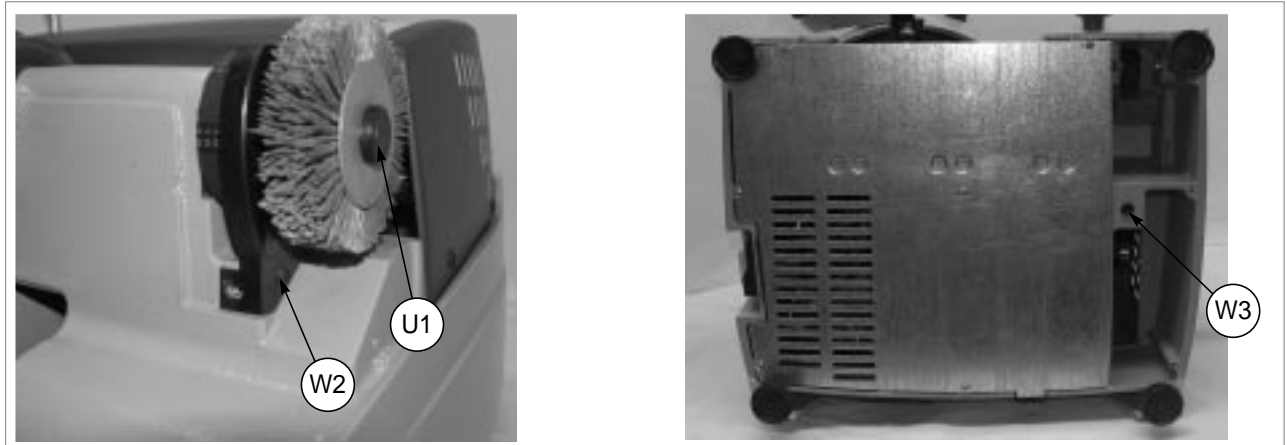

Fig. 28
- 3) Use the lever to raise the carriage and secure by tightening the knob (G).
- 7) Loosen the screw (U1) and remove the brush and spacer (fig. 28).
- 4) Loosen the screw (W2) on the belt cover and remove (pull out towards the front of the machine) (fig. 28, page 18).